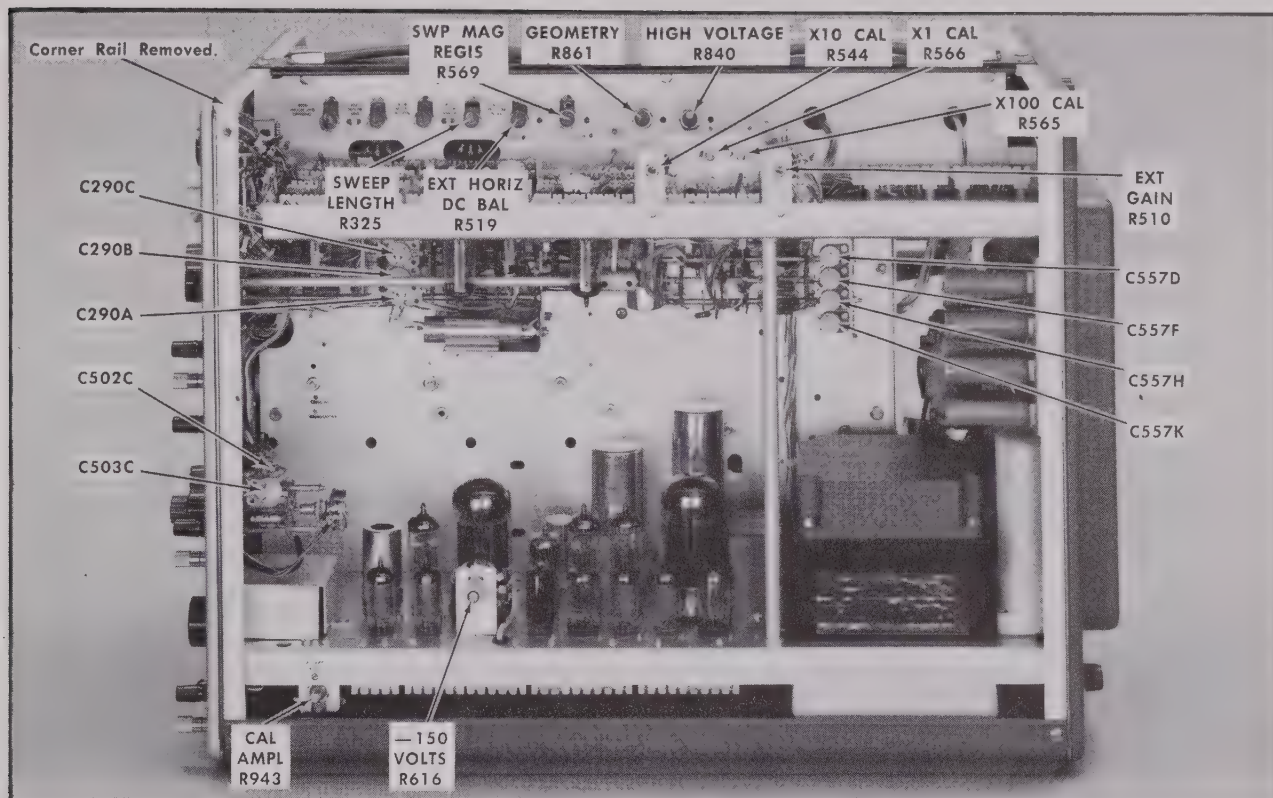

Fig. 5-2. Calibration adjustment locations.
- d. If necessary, adjust the —150 VOLTS R616 control (see Fig. 5-2) so all power supply voltages are within tolerance.
- b. Adjust the HIGH VOLTAGE control R840 (see Fig. 5-2) for a —1850 voltmeter indication.
- a. Connect a single binding post adapter (item 9) to the oscilloscope CAL OUT connector.
- d. Adjust the CAL AMPL control R943 (see Fig. 5-2) for a voltmeter reading of exactly 100 volts.
- g. Adjust the GEOMETRY control R861 (see Fig. 5-2) for straightest possible vertical marker-lines running parallel to the 0-cm and 10-cm graticule lines. Note the amount of bowing.